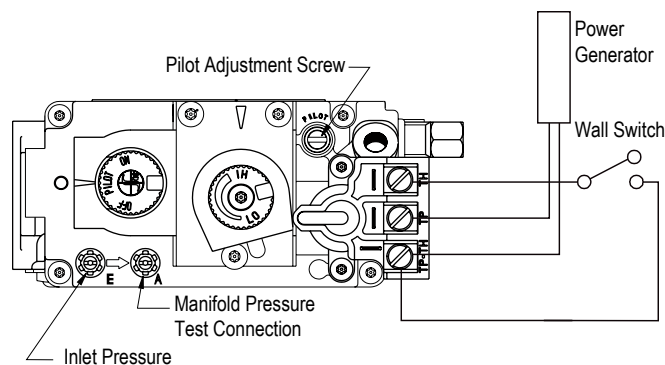

Figure 33. 'Pilot' Adjustment on the H*42DF* s gas valve.
1. Locate Pilot Adjustment Screw. (See **figure 33**.)
Pilot won't ignite	Disconnect remote wires and try to light pilot. If pilot now works, remote connections are faulty. Check wiring diagram figure 33 .
Main burner will not light	1. Check wiring (see figure 33). 2. Check wall switch for proper connection.